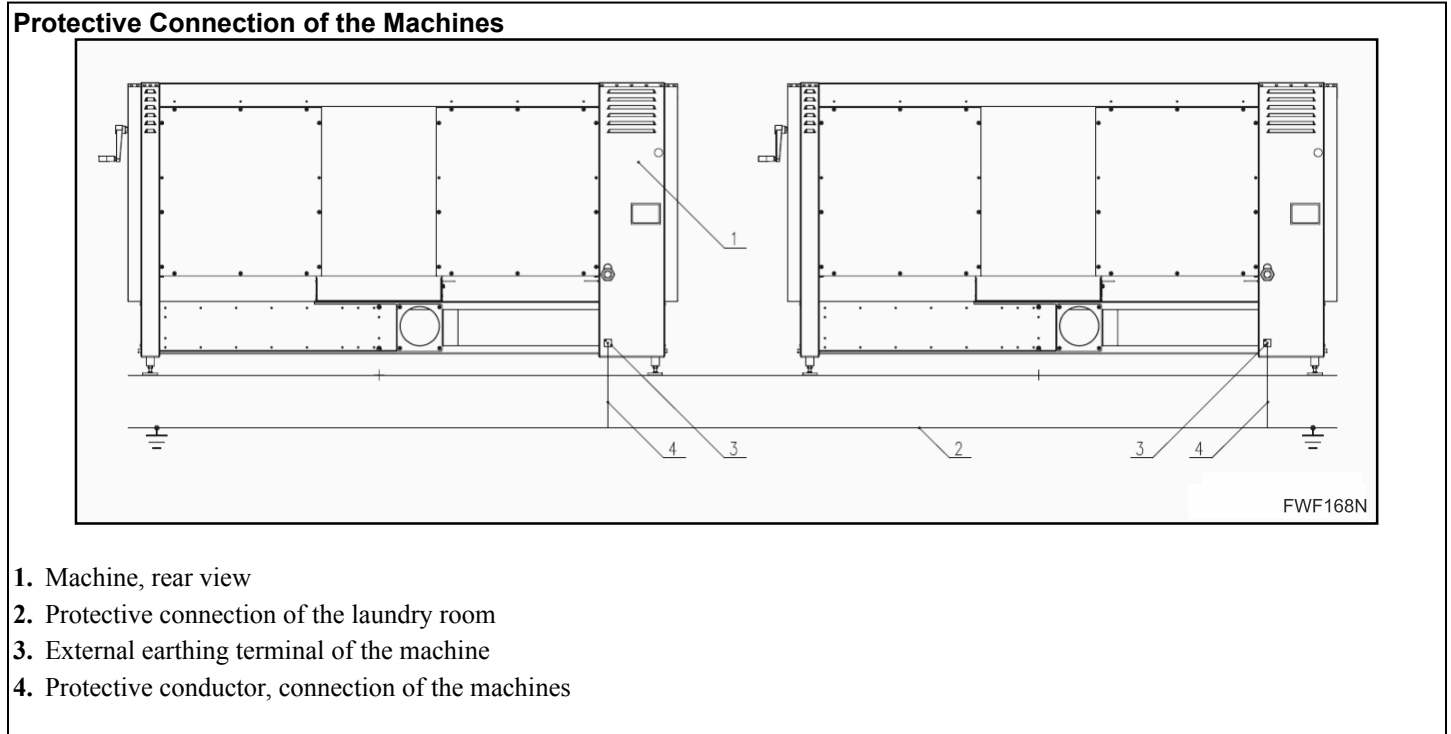

Figure 19
- For security reasons, the machine has to be connected to the protective connection of the laundry room. For this purpose, use the external earthing terminal of the machine (4) in *Figure 19* located on the back bottom left side of the machine.